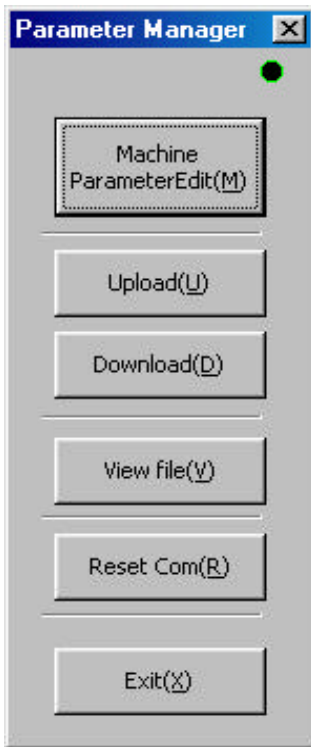

Figure 7.27 “Parameter Manager” dialog box
Click “*Parameter (M)*” under “MainMenu” to display the “Parameter Manager” dialog box (see Figure 7.27).